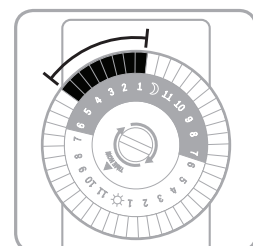

Figure 5
4. Select a time period (or periods) you want the appliance turned on, then push down ALL the segments that fall on or within that time period. For example, to have the timer turn an appliance on at 1AM and off at 5AM, push down the segments representing 1AM and 5AM, and ALL the segments in between (See Figure 5). You may need to turn the dial clockwise to access the desired segments. The setting(s) above the current time setting can not be moved.